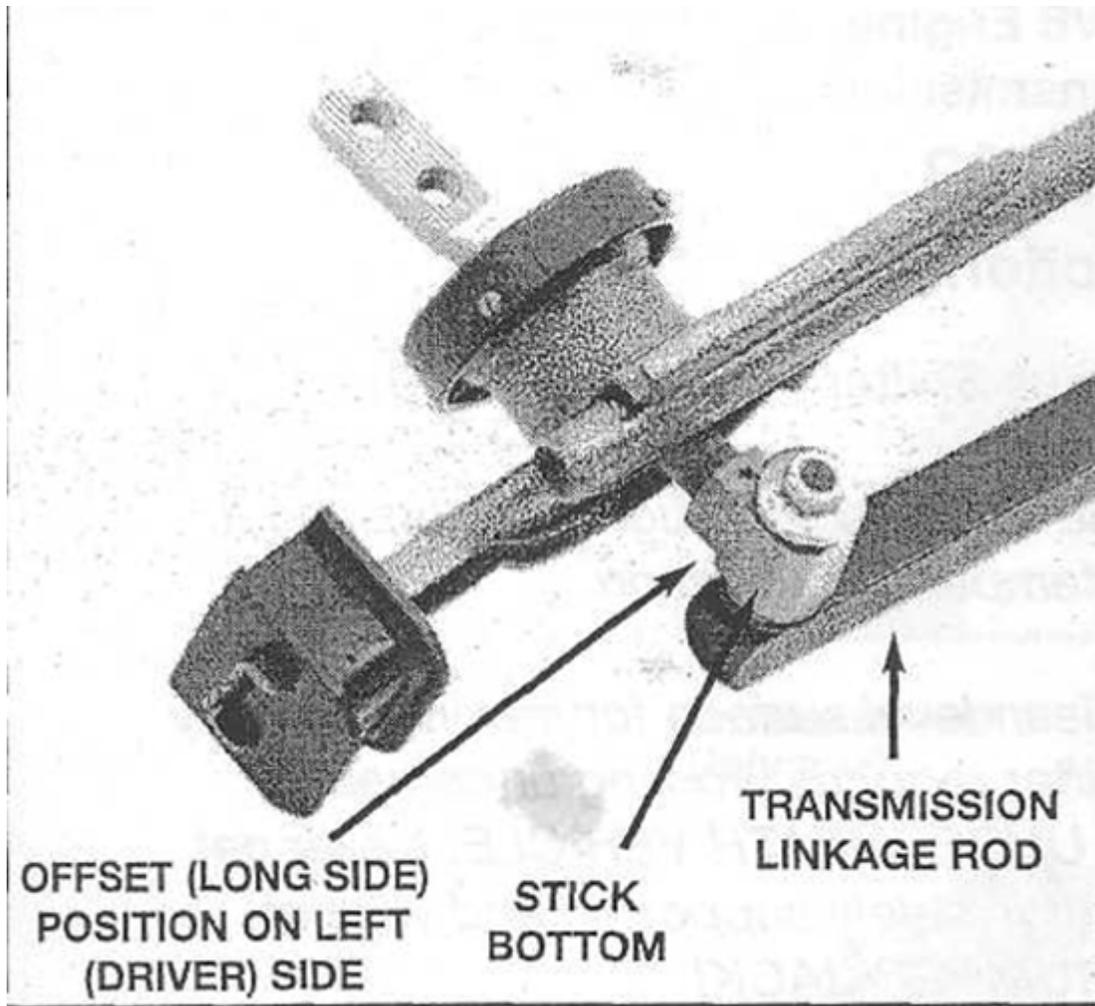

Figure 2
7. From underneath the car, use a 13mm wrench to remove the hex nut that secures the transmission linkage rod to the bottom of the factory shifter (see fig.2). Disconnect the rod by pulling it out of the shifter stick bottom.
6. Lightly lubricate stem on shift rod linkage and - insert into bushings located in shifter stick bottom. Important Offset (long side) of connector located on stick bottom should be positioned to the left (driver) side (see fig.2). Fasten with hex nut previously removed and tighten securely using a 13mm wrench. Note: We recommend using thread locker on the threads to prevent loosening.
7. From inside the car, attach the Hurst upper stick to the stick bottom with the two (2) button head socket bolts and star tooth lock washers supplied.